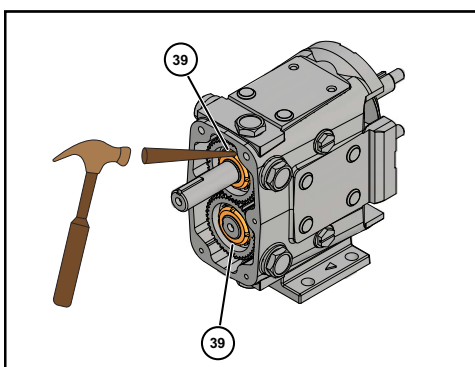

Figure 62 - Bend Lock Tab on Lock washers
7. Bend the locking tab on the lock washers into the locking nut slots, securing the gear locknut into place (Figure 62).